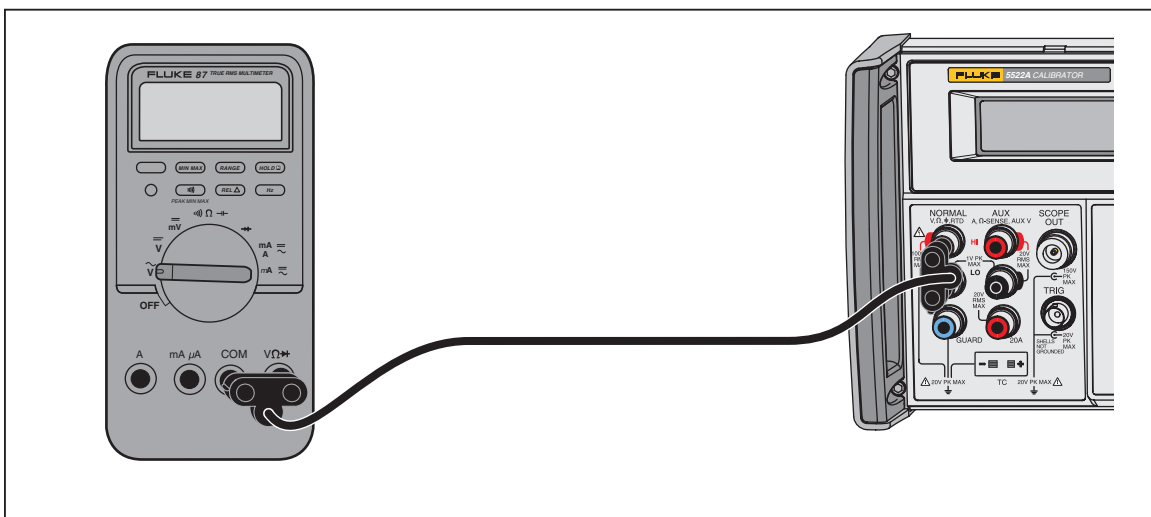

Figure 4-18. Cable Connections for Testing an 80 Series General Functions
2. Verify that the calibrator is in standby and connect the DMM as shown in Figure 4-18.